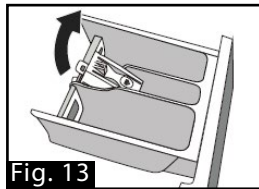

Fig. 13
2. Lift the clip up and take out softener cover (Fig. 13).